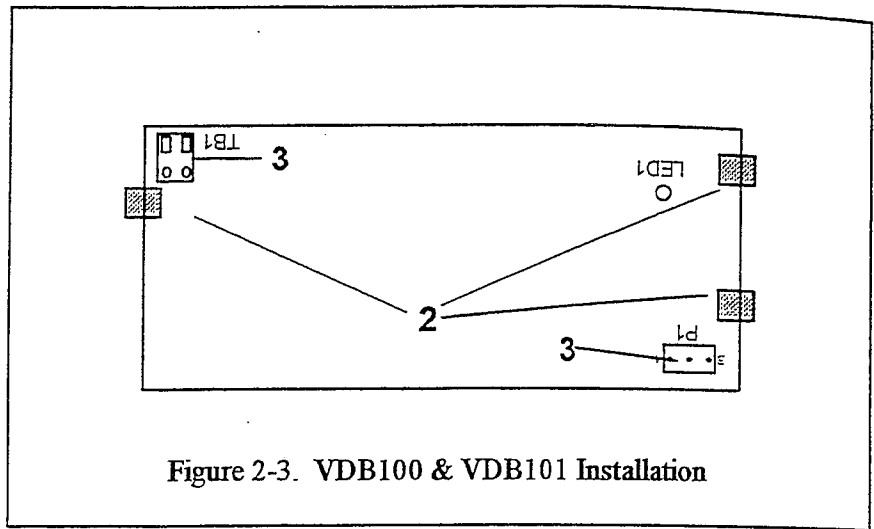

Figure 2-3. VDB100 & VDB101 Installation
2. See figure 2-3. Place the Vehicle Detector board on the three nylon edge supports at upper left corner of the lid. Press the board onto the edge supports until it snaps into place.